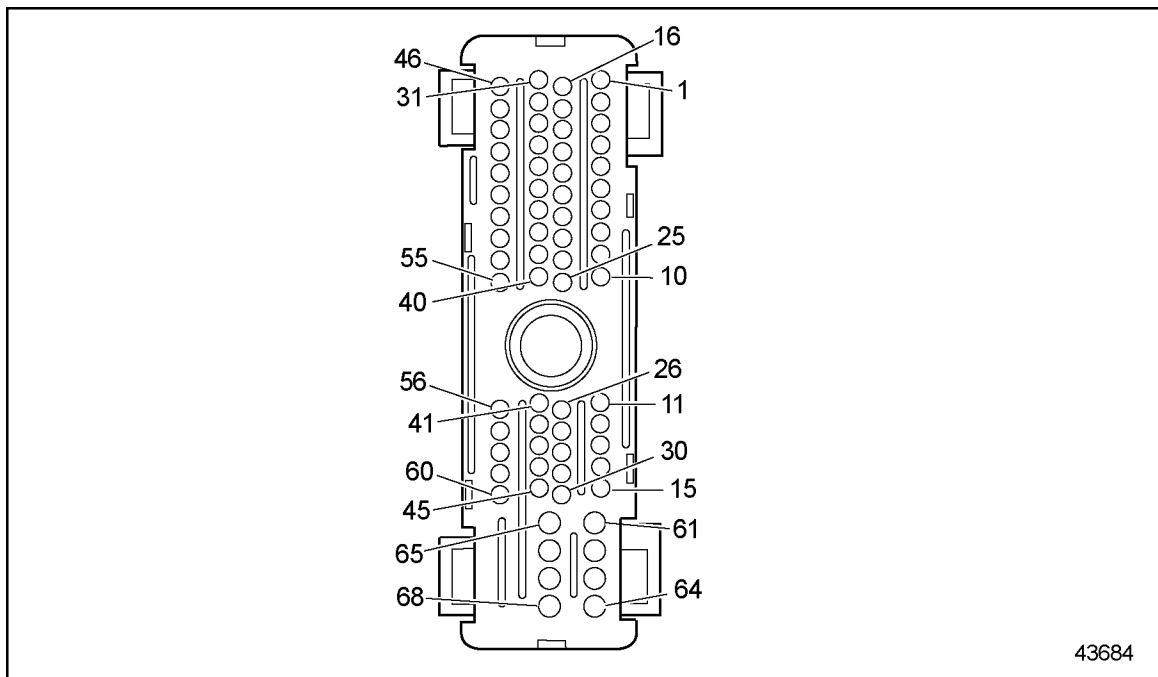

Figure 43-2 Engine Harness Connector
2. Disconnect Engine Harness connector at the ECM/ECU. See Figure 43-2.